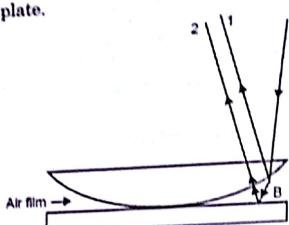

Fig. 1.9.1 : Formation of Newton's rings
- As shown in Fig. 1.9.1, let AB be a beam of monochromatic light of wavelength  $\lambda$  incident normally on the film. As a result of reflection at the top and bottom faces of the film, rays 1 and 2 are the coherent rays which interfere in the reflected system. For constructive interference, the path difference between them should be